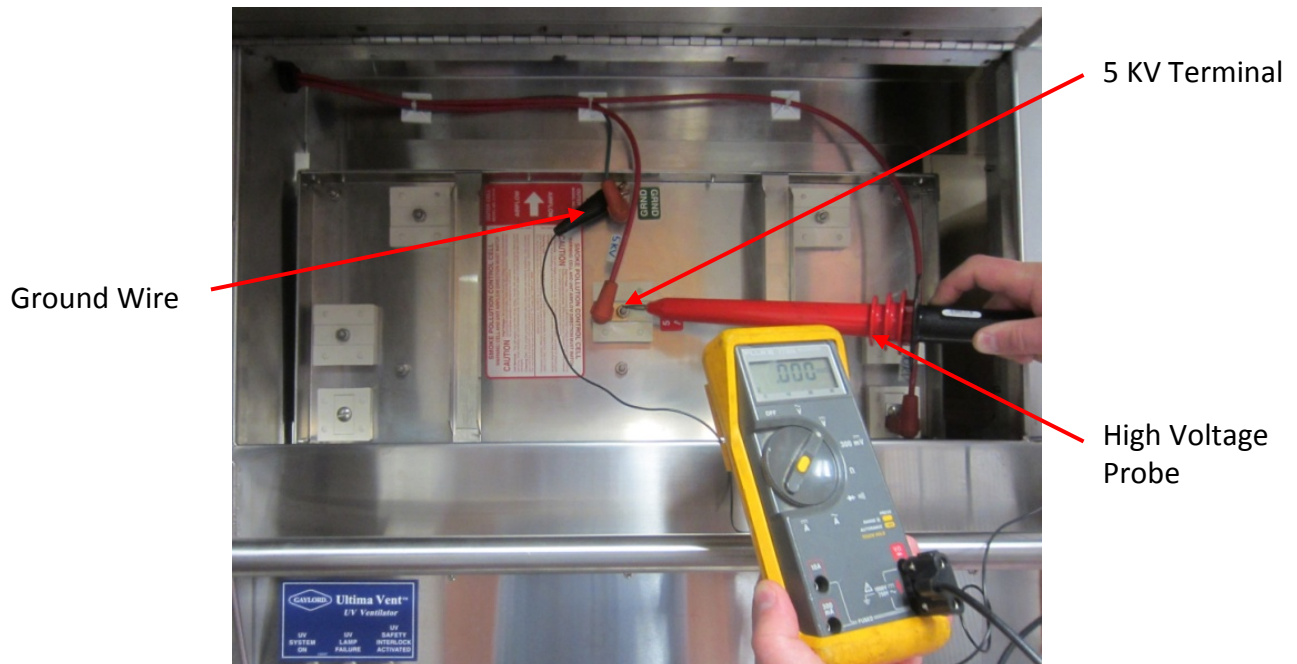

Figure 4-6-1
- c) Collector Voltage Test (5KV Terminal) - Clip the ground lead from the high voltage probe onto the ground nut (Refer to Figure 4-6-1).
- d) Place the point of the high voltage meter onto the 10KV connection plate (Refer to Figure 4-6-1). There should be no voltage. If there is voltage do not proceed. Refer to the Troubleshooting Section of this manual.